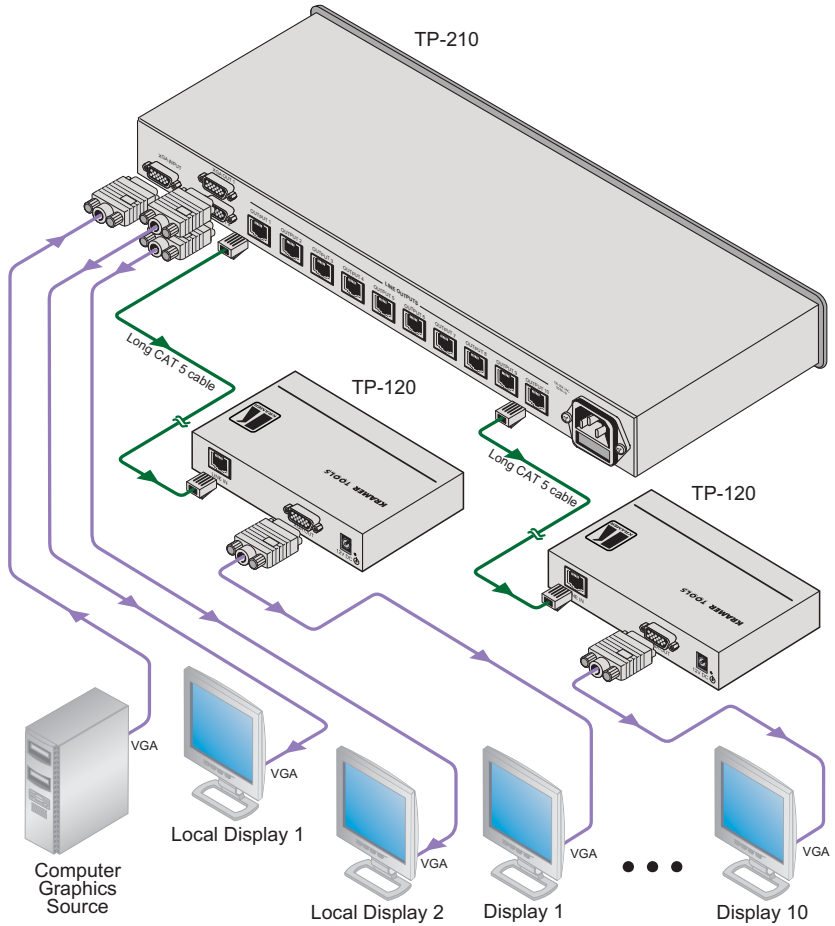

Figure 3: Connecting the TP-210 XGA Line Transmitter/DA
To connect the **TP-210**, as Figure 3 illustrates, do the following:
5. Connect the power cord³ (not shown in Figure 3).